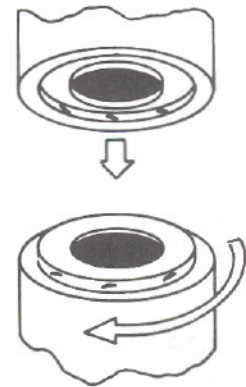

FIG. 8
5. **CONTINUE** adding Chimney Sections, until chimney exits above roof. (Note Paragraph 9 of GENERAL INFORMATION.) Any ceilings encountered are "boxed" at 18" x 18" as described, and Firestop Spacers are installed. Roof openings should be plumbed from last Firestop Spacer, then cut according to roof termination used. **NOTE:** Chimney Sections are locked together by a firm clockwise twist, which engages mating threads at ends (Fig. 8). **ADDITIONAL REINFORCEMENT** is required only when chimney is inclined (see details under OFFSET or ELBOW directions), or when chimney is exposed above roof (see details in CONTEMPORARY CAP installation directions).